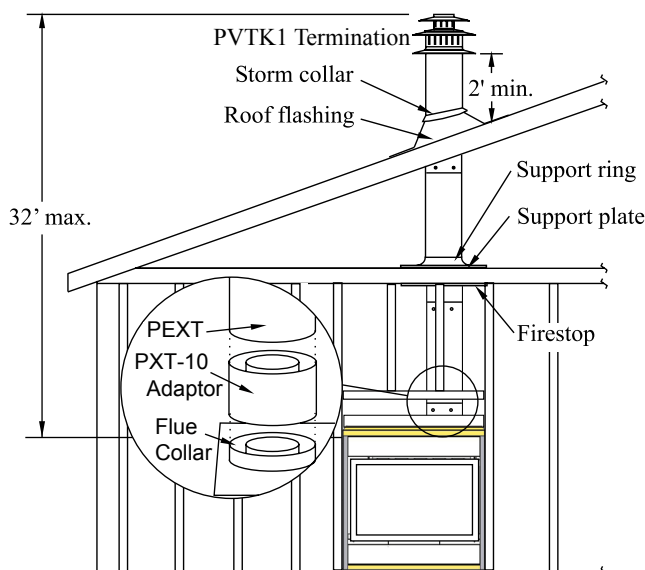

Figure 8. Top vent, Roof mounted termination with no offset in vent run.
- The Vertical termination must be a minimum 2' higher than where the termination exits the roofing materials, (asphalt shingles, cedar shakes, etc). This distance should be measured from the high side of the roof slope where the flue flashing intersects the roofing materials. (see Figures 8 to 8c).